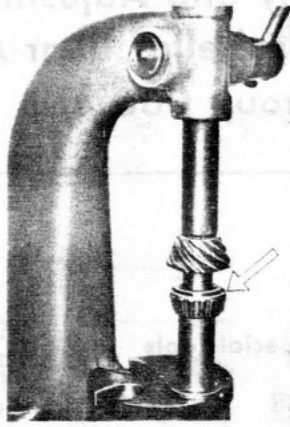

Fig. 4
4. Press taper roller race 503 961 (FAG), 330 353 (SKF) onto the pinion shaft (Fig. 4). (Use suitable press).